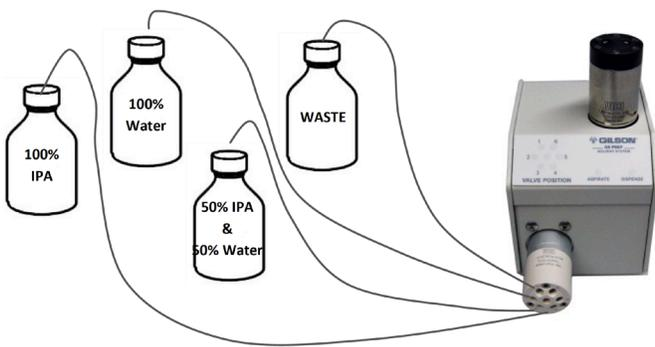

Figure 2
- The GX Solvent System was setup to allow for multiple rinse solvents for proper rinsing of polar and non-polar samples used in the stability preformulations study (Figure 2).